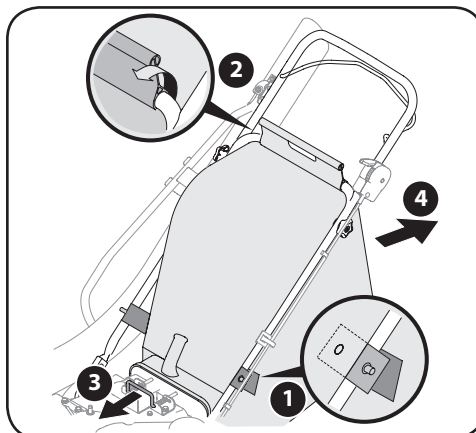

Figure 4-2
2. Unsnap bag clip from the top of lower handle. See Figure 4-2.